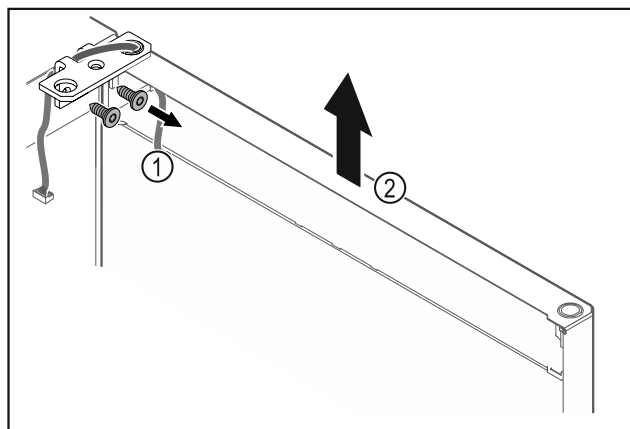

Fig. 28
- ▶ Unscrew the hinge Fig. 28 (1).
- ▶ Lift the door with the hinge straight up by Fig. 28 (2) roughly 200 mm (7.87 in) and take it off.